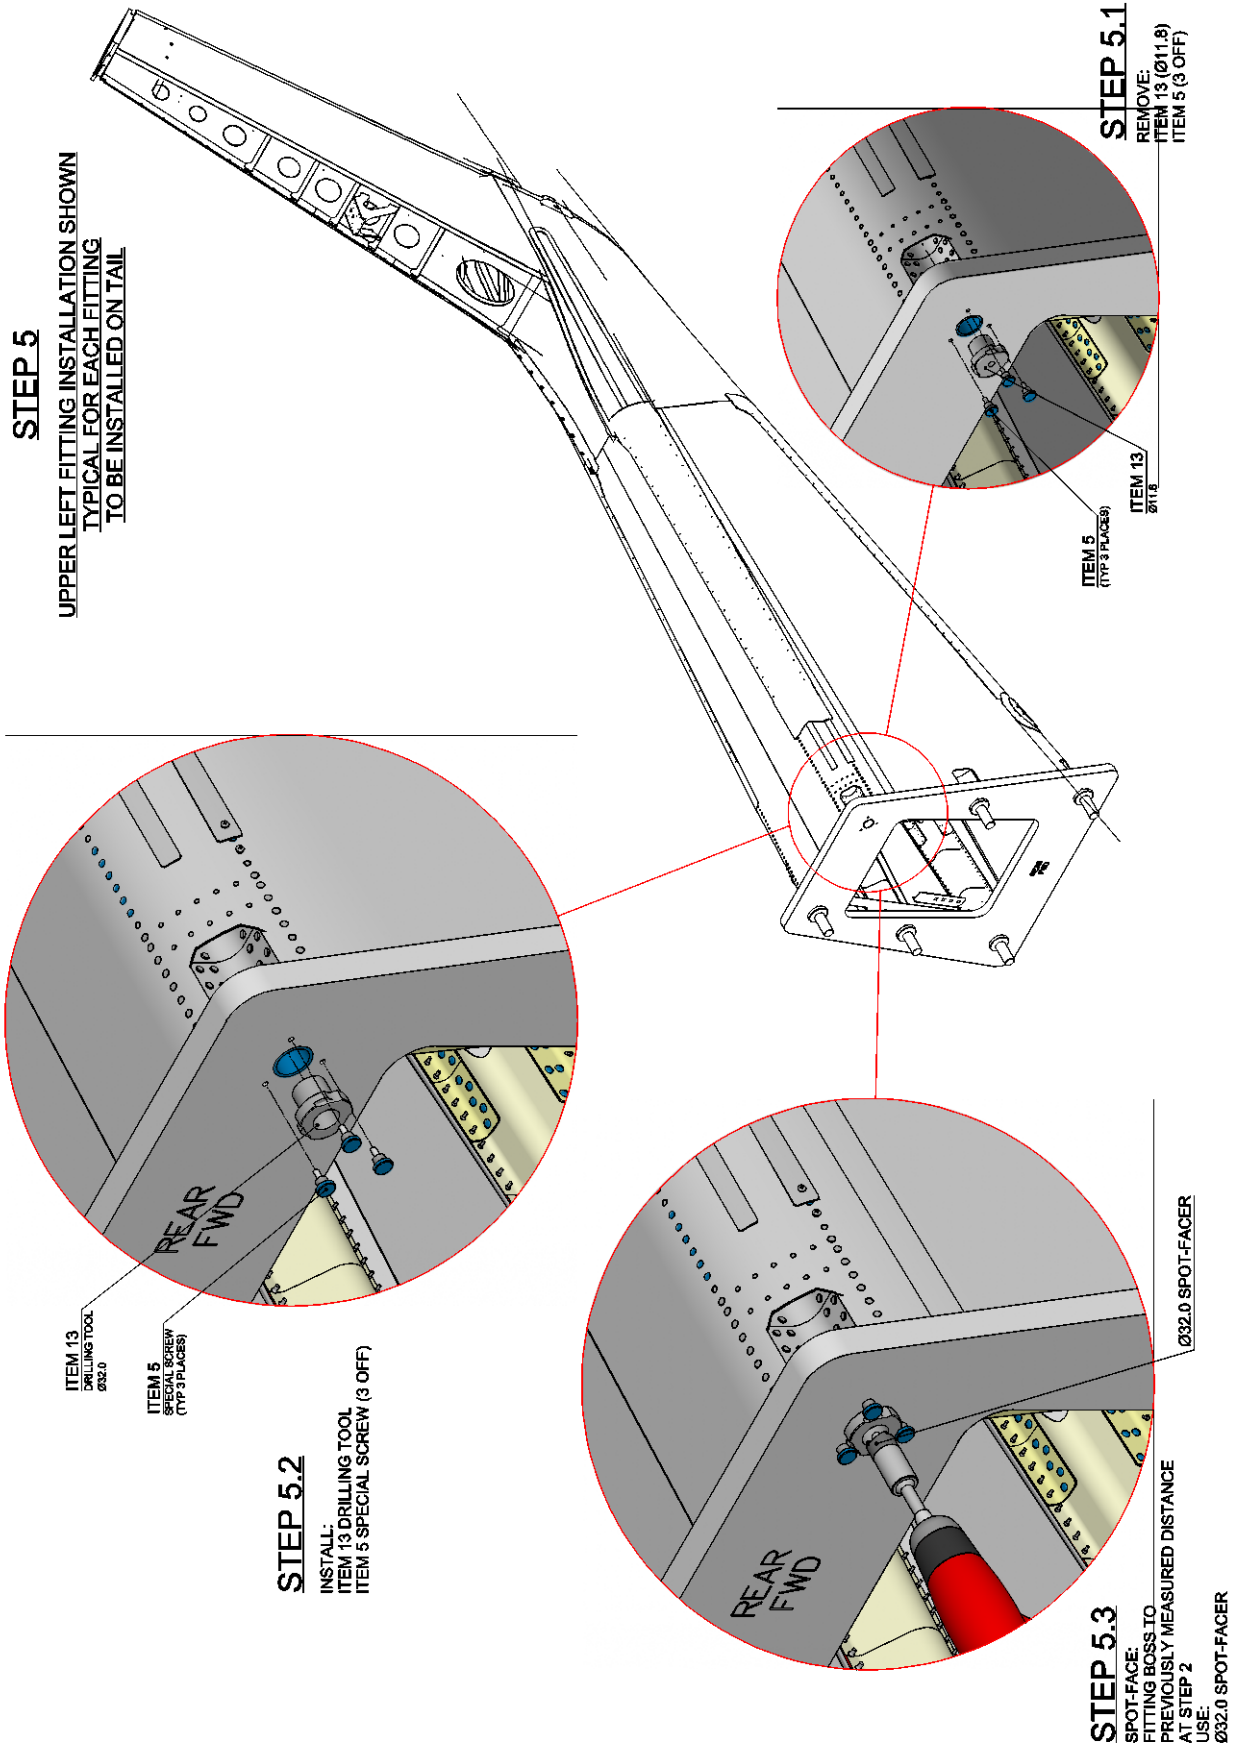

Figure A6
8. With reference to Figure A6, remove the drilling tool $\varnothing 11.8$ (ITEM 13) and the n°3 special screws (ITEM 5).
9. With reference to Figure A6, install the drilling tool $\varnothing 32.0$ (ITEM 13) by means of n°3 special screws (ITEM 5) and spot-face the fitting boss to the previously measure at step 2 by means of $\varnothing 32.0$ spot-facer.